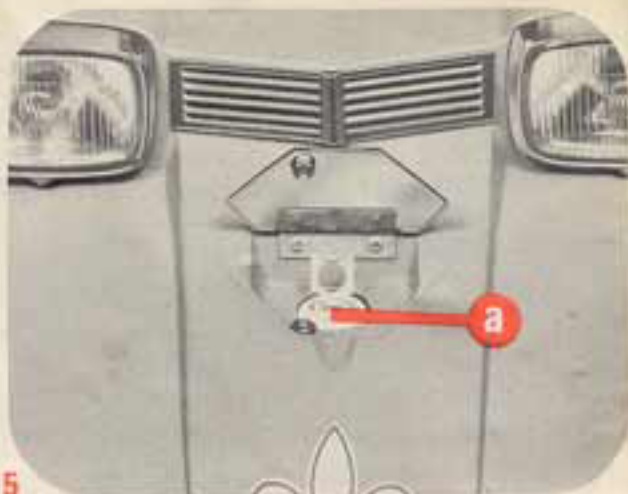

fig. 5
1. Never mix oil and gasoline directly into the fuel tank (fig. 5, a) of your MOTO-SKI.